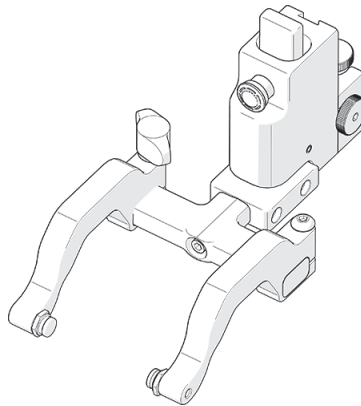

Figure 3-34 90° Probe holder positioning
2. Orient the yoke to the front of the probe holder and screw the yoke into the threaded hole provided (see Figure 3-34 on page 59).